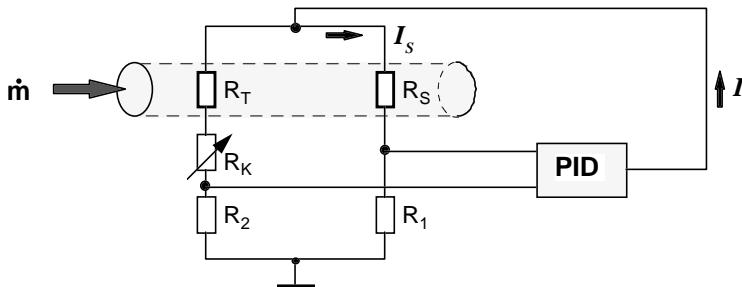

Fig.3 Operating principle of the thermal flow sensor
In a bridge circuit, the temperature difference between the heating resistor (R_s) and a temperature sensor (R_T) placed in the flowing medium upstream of it is kept constant (Fig.3). The necessary bridge current (I) is a measure of the velocity of the flowing gas.